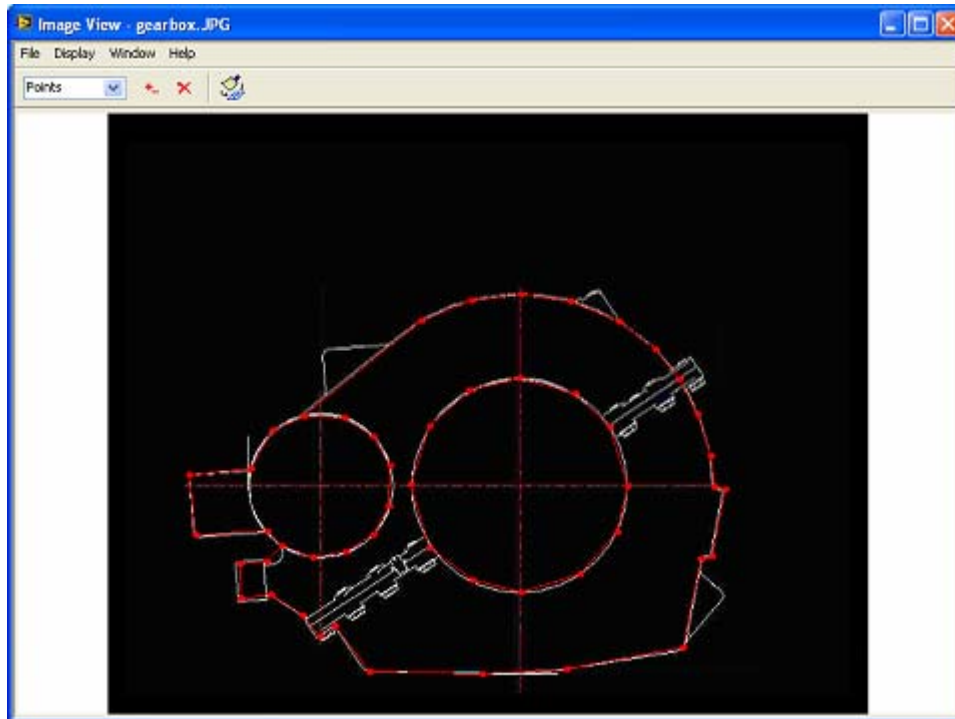

Figure 2-10 Points and lines of 2D structure profile
- Repeat above step to add other lines, as Figure 2-10 shows.